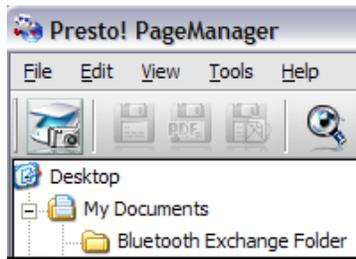

Fig. 1
- a) To calibrate your scanner select the acquire image data icon (scanner and camera icon) under the toolbar menu. (see Fig. 1)